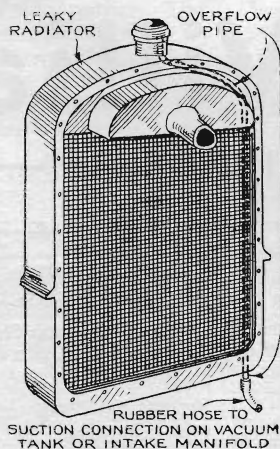

Fig. 4. How air pressure is used to stop leaky radiator.
**MANY** methods have been proposed for emergency radiator repairs. A most ingenious one is shown in Fig. 4. Instead of attempting to repair the leak, atmospheric pressure is utilized to keep the water from